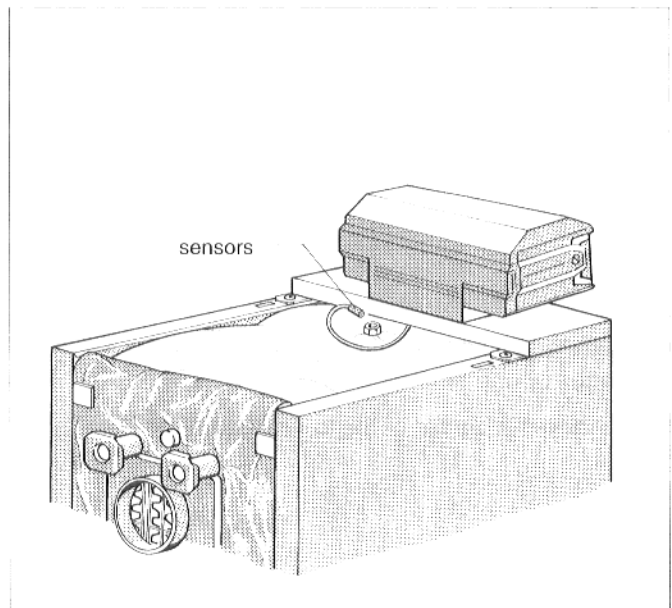

Fig. 12
- Insert sensor into the immersion well until it stops (Fig. 12).